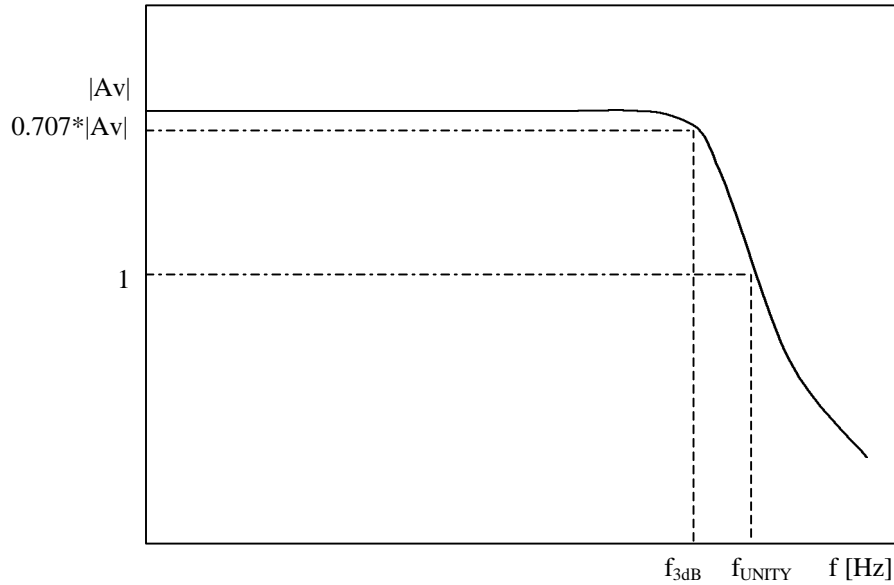

Figure 2: Gain vs. frequency.
b) Unity gain frequency, $f_{UNITY} > 40$ MHz (see Figure 2).